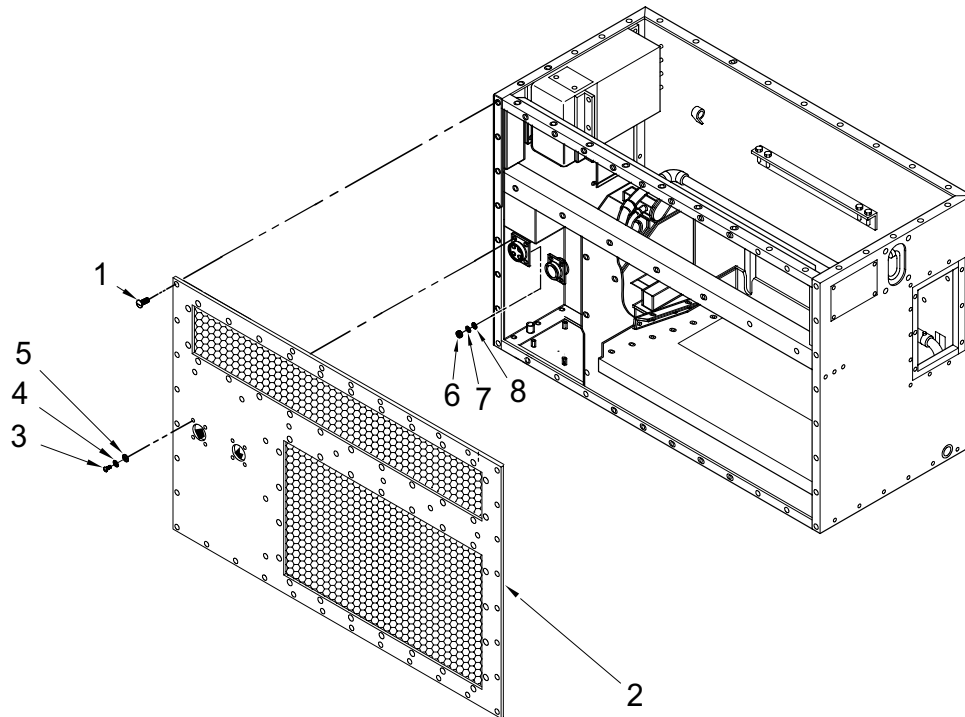

Figure 3. EVAPORATOR ASSEMBLY FRONT COVER.
3. Check EMI screens are not bent or punctured. Replace if damaged. See Figure 3.
1. Remove screws (1), front cover. Retain screws and washers for installation. See Figure 3.
3. Remove screws (3), lockwashers (4), flat washers (5) and nuts(6), lockwashers (7) and flat washers (8) from connector J1 and J2. Retain screws, washers and nuts for installation. Remove connectors J1, J2 and ground wires from cover. See Figure 3.